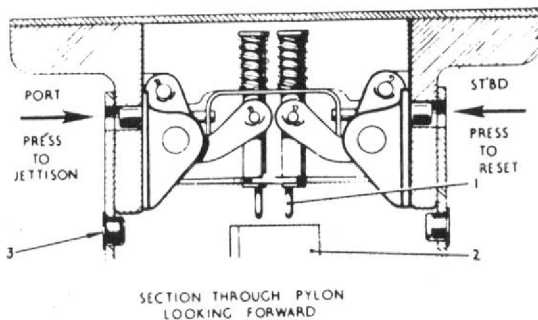

Fig. 5 Jettison and reset mechanism (outboard pylon)
- (1) Disconnect the Armament Safety break in the port wing.
- (2) Remove the pylon rear door and disconnect the servicing break.
- (3) Position the drop tank under the pylon and lubricate the front and rear spigots with anti-seize compound ZX-38. Inspect the sealing rings for serviceability and smear the outer surface of the rings with ZX-36.
- (4) Remove the Chekaleke plugs (3, fig.5) from the sighting holes on the port and starboard sides of the pylon and check that a gap exists between the top of the release housing (2, fig.5) and the bottom of the plungers (1, fig.5) and that this gap does not exceed 0.10 in.
- (5) If the electro-mechanical release is not open, press the jettison button on the port side of the pylon and then reset by pressing the reset button on the starboard side of the pylon. (Should the electro-mechanical release be already open, only the reset button need be used).
- (6) Remove the access panel (complete with locking tube) from the wing top skin and place a crutching spanner (Ref. 26FX/95426) over the hanger bolt and ensuring that the annular groove on the spanner is flush with the wing skin, unscrew the special nut and lower the hanger bolt to which is attached the E.M. Release Unit.
- (7) Raise the tank sufficiently to allow electrical connectors on the tank to be plugged into their appropriate connectors on the pylon.
- (8) Raise the tank further until the suspension lug is engaged by the electro-mechanical release and check that the release is fully cocked by means of the cocking test socket and test set. (Sect. 5, Chap. 1.)
- (9) By means of the crutching spanner, raise the tank until the fore and aft spigots on the tank are engaged in the sole plate and the tank adapters are making contact with the fuel and air valves in the pylon. Care must be taken not to trap the electrical cables between the tank and the sole plate of the pylon.
- (10) Apply the final crutching load by using a torque wrench (Ref. 1L/171) set to 80 ± 2 lbf ft attached to the adapter on the crutching spanner. Check again through the sighting holes in the pylon that a gap exists between the top of the release housing (2, fig.5) and the bottom of the plungers (1, fig.5) and that this gap does not exceed 0.10 in. Replace the Chekaleke plugs (3, fig.5).
- (11) Re-check that the release unit is fully cocked by means of the cocking test socket and test set, refit the servicing break and close the rear door.
- (12) Remove the torque wrench and crutching spanner and replace the access panel (complete with locking tube) in the wing.
- (13) Immediately before flight, replace the Armament Safety break.